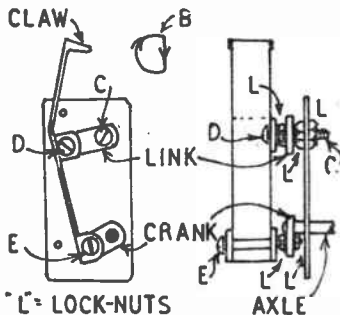

Fig. 2—Assembled movement
tions with pivot holes, are bent at right angles. Fig. 2 shows the assembled movement, and when made up, and the axle turned, the points of the claw will move in the manner shown at (B). When the points are moving straight down, they are engaged in the holes in the film, and transporting it for the space of one frame. They then withdraw out of the holes, making a circular movement (during which the film rests in the gate). They then engage with the next pair of holes, drawing the film down a further frame and so on.